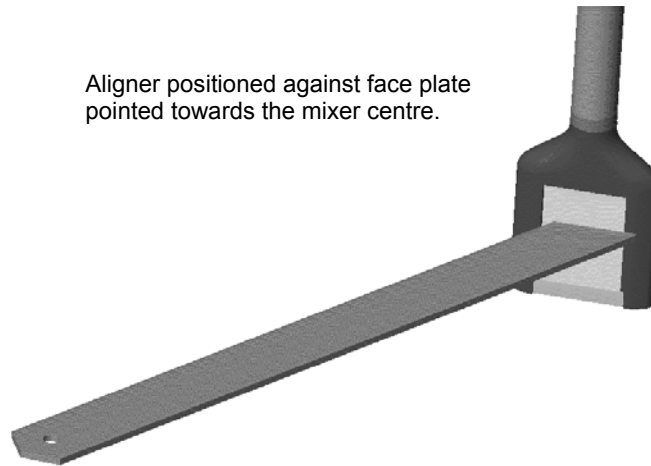

Figure 10 - The Hydronix angle aligner for sensing face alignment
- An angle of 55° generally provides good results. Use the angle aligner provided to set the angle (Figure 10).